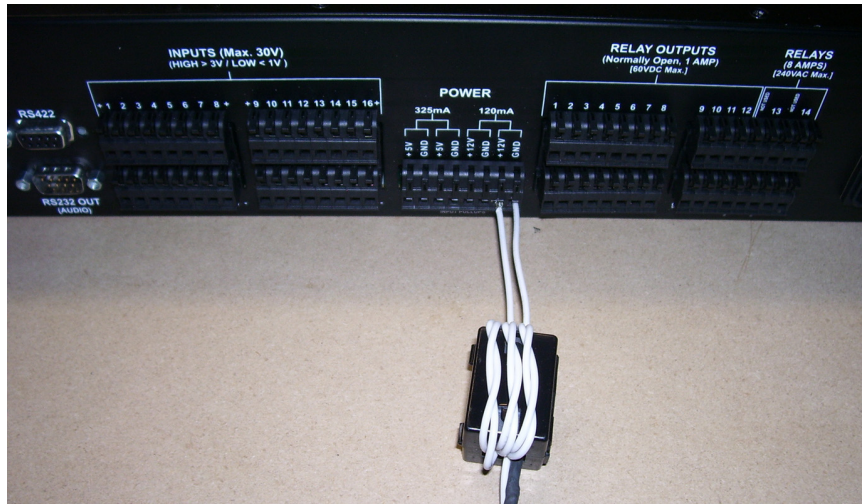

Figure 2 Attach Leads to Christie ACT
2. Open the ferrite clamp and position it under the leads at a distance where the wrapped ferrites will lie close to the Christie ACT outputs. See **Figure 2**.
5. Connect the leads to the Christie ACT unit as shown in **Figure 2**. Each output must have a separate ferrite installed. **NOTE:** *This only applies when using the DC Power outputs. All other connections do not require the use of ferrites.*